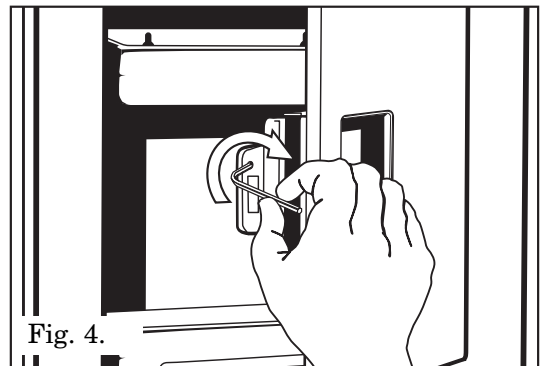

Fig. 4.
4. Retighten the set screw as shown in Fig. 4.